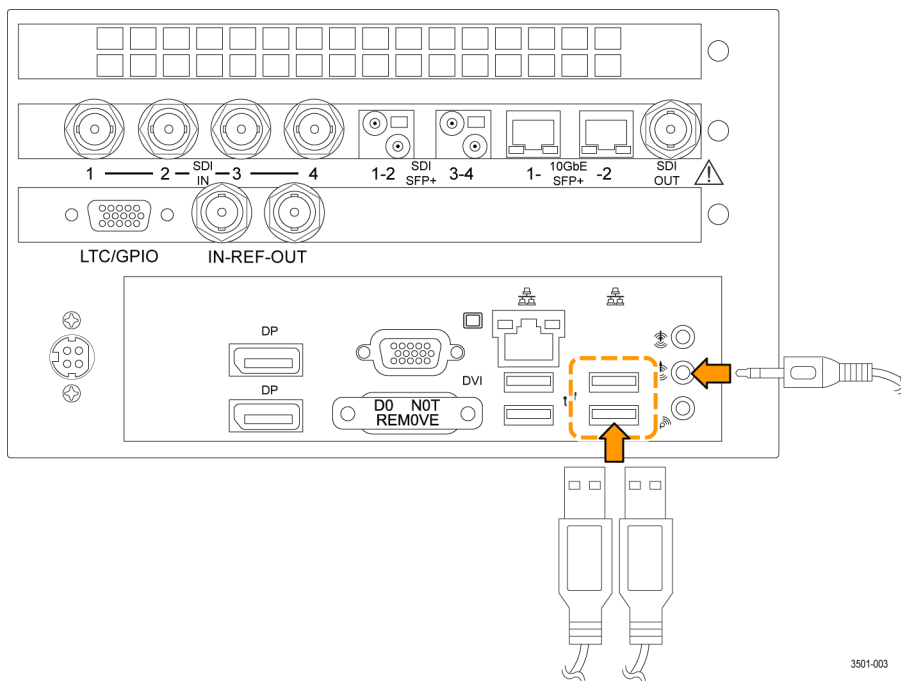

Figure 5: Connecting the cabinet USB and audio cables to the PRISM monitor
- b. Use two screws (item 3 in Table 2) to secure the instrument in the dual rack cabinet. The screws attach to the top right and bottom left holes in the instrument chassis as viewed from the rear.
- c. Connect the cables from the USB ports and headphone jack on the dual rack cabinet to the rear of the instrument. (See Figure 5.)